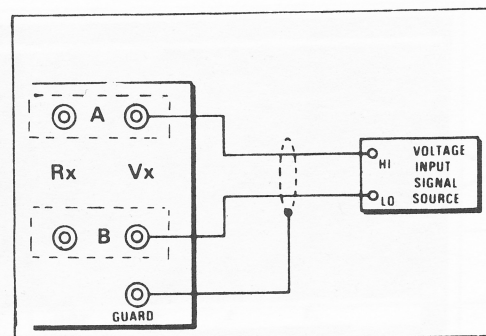

Figure 2-3. Voltage Measurement Connections
2. Connect input circuit to Vx (Figure 2-3).